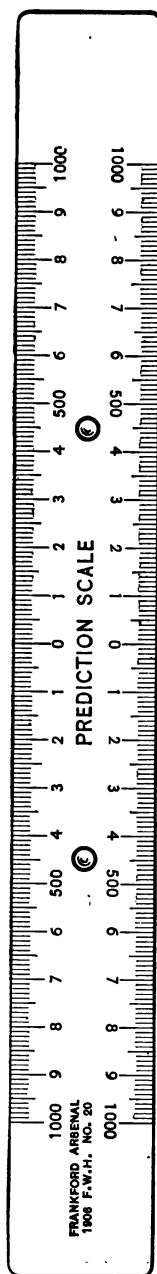

FIG. 82.
A. The prediction scale is graduated in the same manner as the gun-arm ( $1'' = 300$  yards), and is used for finding the *predicted point*. After having marked four points on the board, showing the course of the target, place the prediction scale so that zero (o) is on the last point, or reading, and then mark off as many yards in advance of the last point as the first reads from zero. This point is known as the predicted point, and is used by the range officer only. As soon as the predicted point is found he sets his azimuth instrument at the given azimuth and when the target crosses the vertical wire in the instrument, he gives the signal "Fire." (See Fig. 82.)